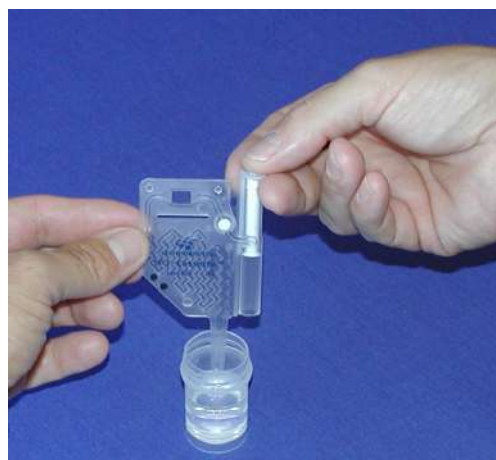

Figure 3. Loading the cassette with the lyzate mixture
5. **Immediately** after the dispensing, a portion of the mixture shall be aspirated into an SP1-Cassette. The tip of the cassette should be immersed below the surface of the sample during aspiration. Apply a consistent pressure to the piston and press the piston all the way down until it reaches the cassette. Avoid touching the window (clear area) of the measurement chamber. (*cf. figure 3*)